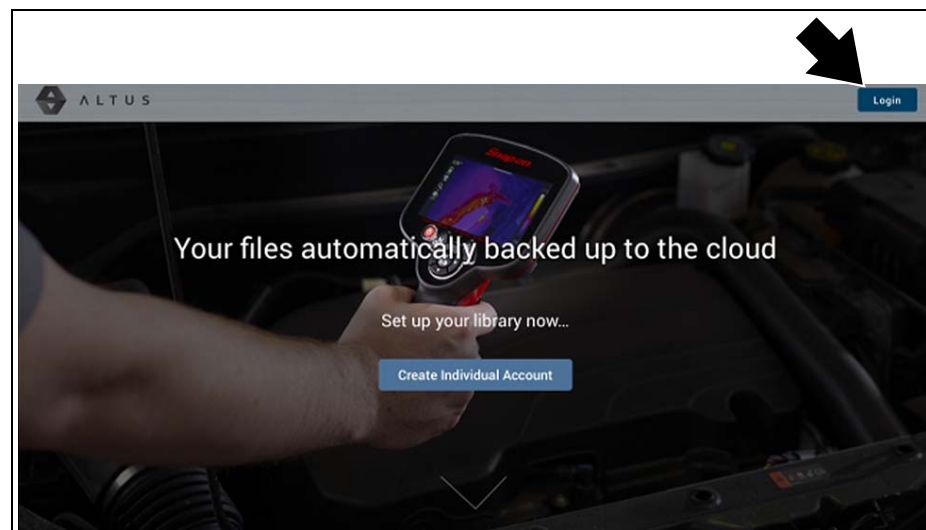

Figure 13-4
2. Select the **Login** icon (Figure 13-4).